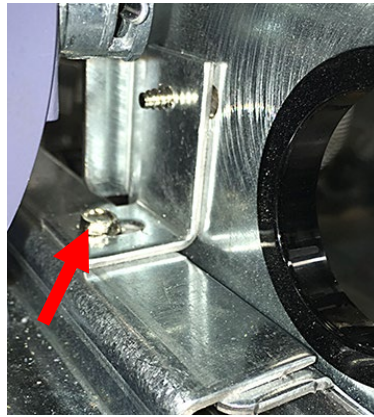

Figure 5
7. Remove the "L" bracket from the left side of the assembly and attach to the top of the rail (see Figure 5).